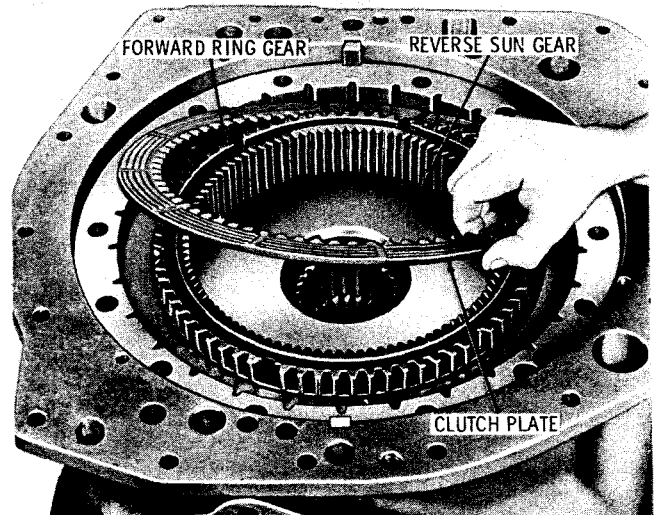

Fig. 7-22. Installing forward clutch plate after installation of ring gear (5630 models)
(5) Install the forward ring gear, shouldered side downward (fig. 7-22). Install the reverse sun gear. Beginning again with an internal-splined clutch plate, and alternating with external-splined plates, install four plates of each type. Note that the last plate to be installed is external splined.